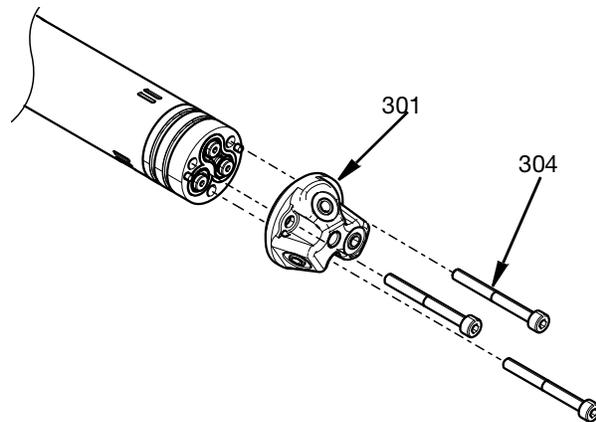

FIG. 33
13. Attach the nozzle head (301) to the adapter using the M4 screws (304) bolted through to the central body. Torque to 29.2 in-lbs (3.3 N•m). See FIG. 33.